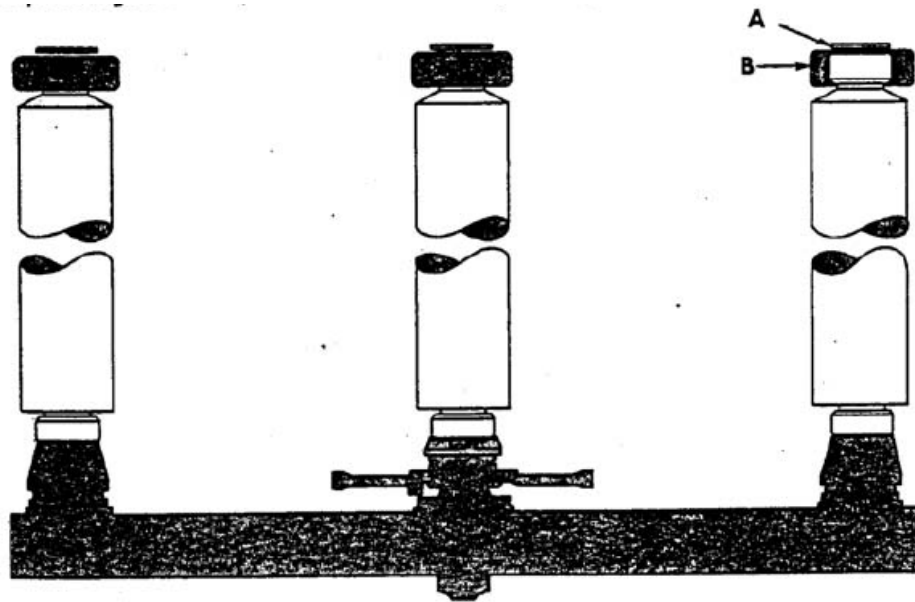

Figure 3: Insulator Mounting
| Figure 3: Insulator Mounting | 6 |
4. Mount the insulators as indicated in Figure 3, using the bolts specified in the field assembly bolt list (SF Drawing). Be sure that the match marks made earlier line up. Place the corona shields as indicated in Figure 3. If the switch is equipped with a grounding switch jaw or outriggers, spacers will have to be used to maintain equal height of live parts. Refer to the Operating Mechanism Drawing.